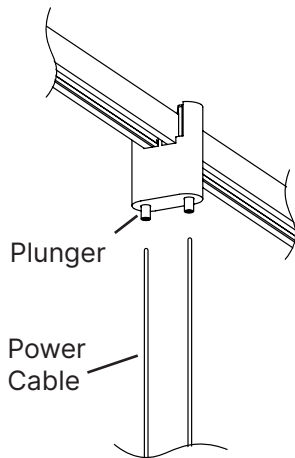

Fig. 18
1. Insert **Power Cables** into **Plungers** of **Height Adjustable Luminaire Hanger** (Fig. 18)